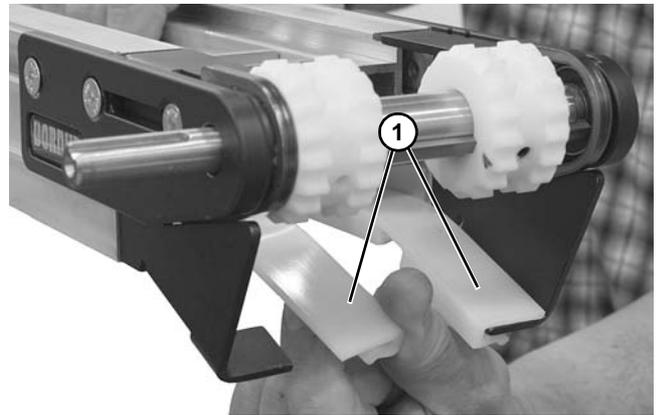

Figure 66
3. Remove lower wear strips (Figure 66, item 1).